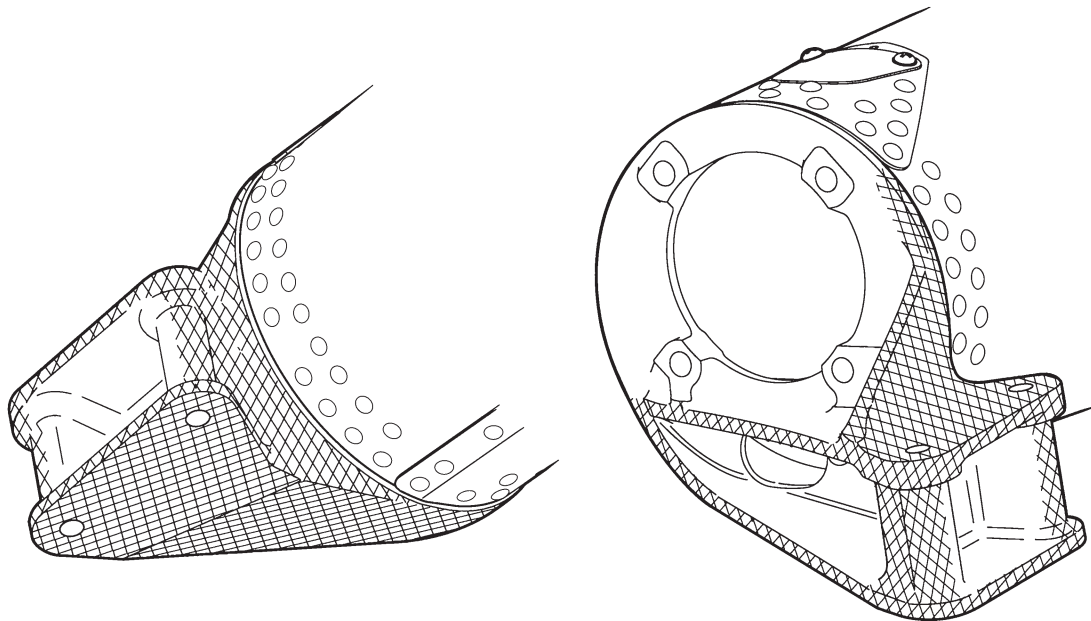

FIGURE 5-8 PENETRANT INSPECT CROSS-HATCHED SURFACES OF C148 BULKHEAD
1. On associated tailcone's C148 bulkhead, strip paint from cross-hatched surfaces shown in Figure 5-8 using § 20-71 approved materials.